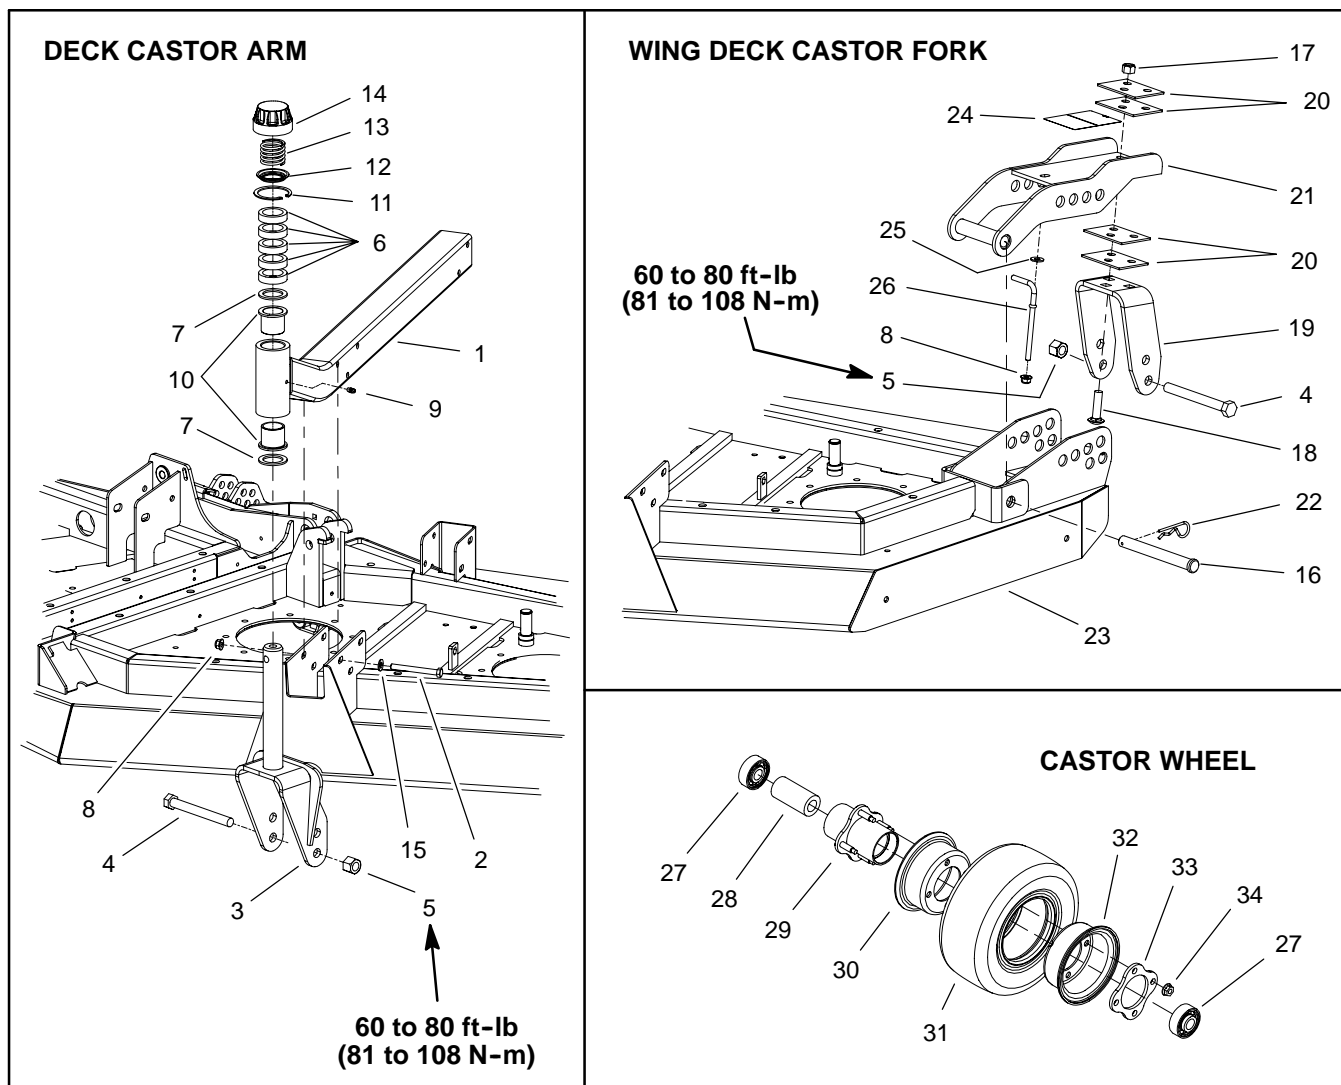

Figure 22
Disassembly (Fig. 22)
2. Disassemble castor forks and wheels using Figure 22 as a guide.
Assembly (Fig. 22)
1. Assemble castor forks and wheels using Figure 22 as a guide.